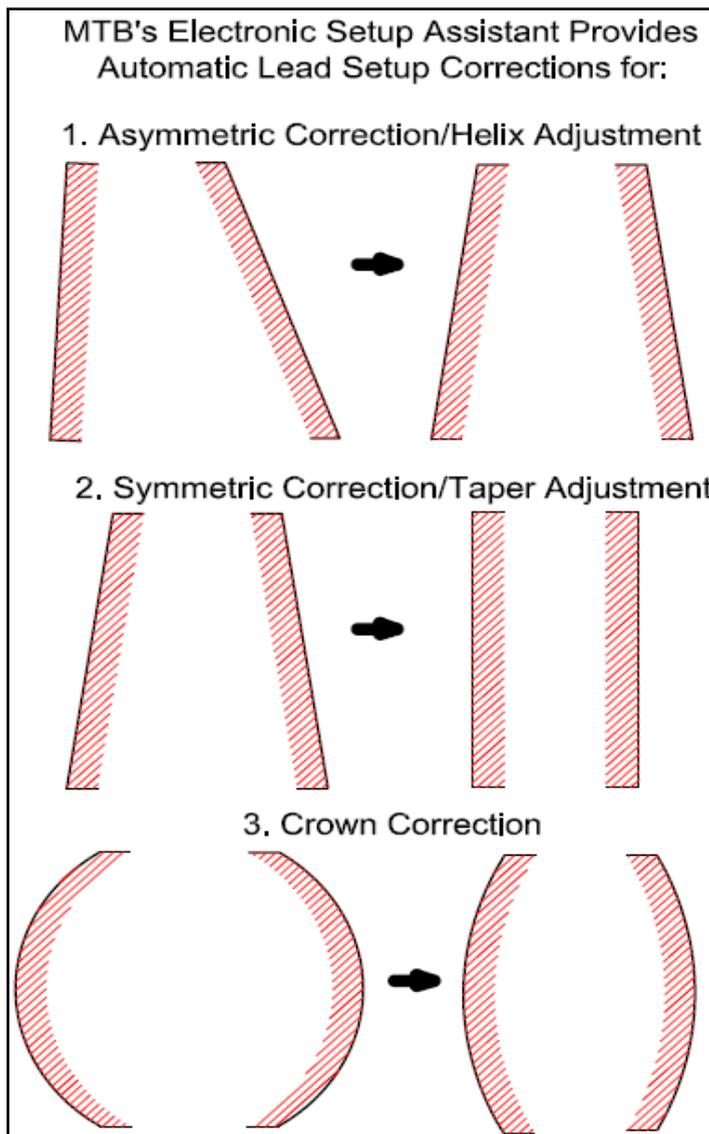

Figure 16 Lead setup adjustments are conceptually similar to the profile.
- Lead setup adjustments are conceptually similar to the profile (Fig. 16); it is typically broken down into two steps: symmetric and asymmetric. The asymmetric adjustment (helix) is achieved by refining the synchronization of table rotation (C-axis) and axial travel (Z-axis). The symmetric adjustment (taper) is achieved by refining the synchronization of X and Z axes. The lead crown correction can be combined with symmetric and asymmetric corrections. Based on the crown